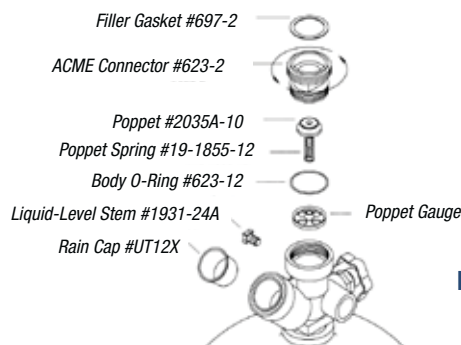

Figure 2
3. Push the poppet and spring all the way down and use a pencil or wooden dowel to hold it down. Slide the new ACME connector over the dowel and turn clockwise until the fine threads engage. See Figure 2.